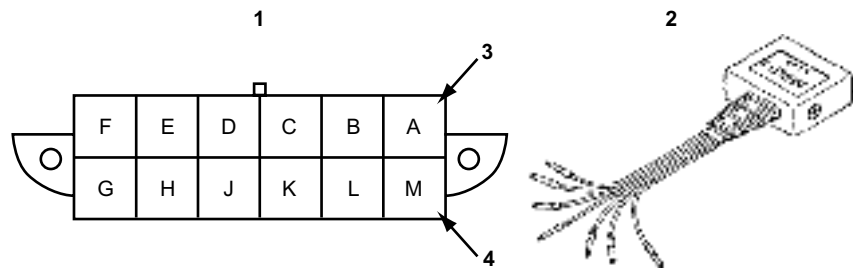

Figure 7-13 1993–95 Prizm, 1992–95 1.3L Metro, and 1995 1.0L Metro ABS connector
- Connect the MULTI-1 adapter to the connector under the left dash (Figure 7-13 on page 60).